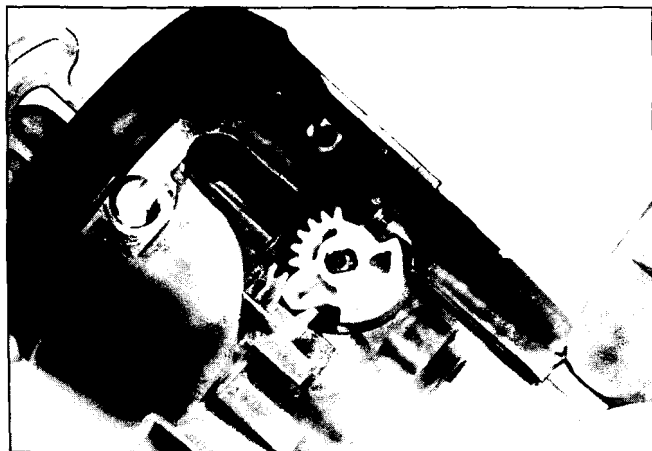

Fig. 9-62 Installing Lock Bolt to Sector
5. Install lock bolt and engage with sector cam surface (Fig. 9-62).
6. Install rack and spring. Wide tooth on rack to engage wide tooth on sector (Fig. 9-62).